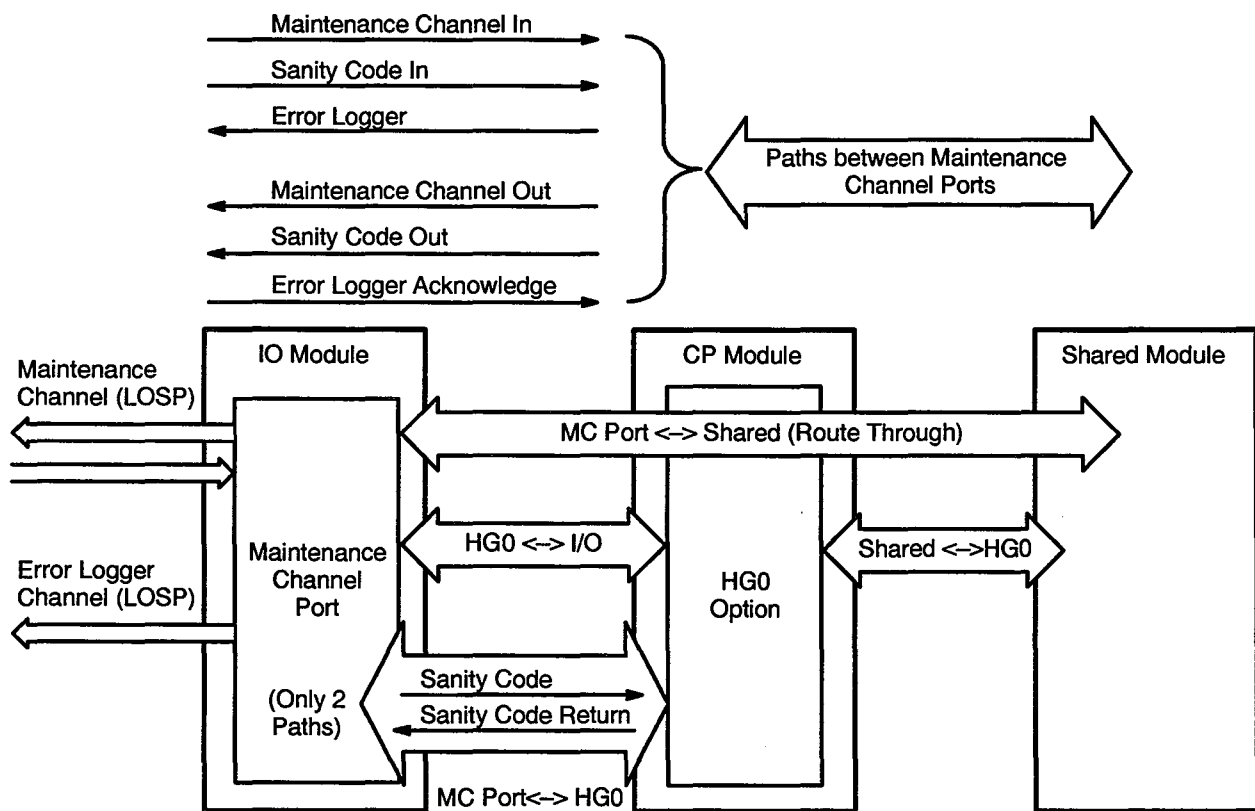

Figure 2. Maintenance Channel Port Signal Paths
The six serial signals that compose the maintenance channel (Figure 2) pass from the maintenance channel interface through the attached CP stack to the shared (SR) module. From the local SR module, the signals fan out to all modules in the system.
Starting at the maintenance channel interface (port) on the IO module, a maintenance channel consists of six signals, as shown in Figure 2.